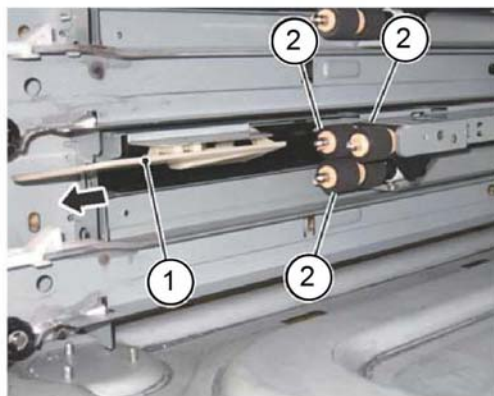

Figure 1 Roll removal
4. Remove the tray 2 feed, retard and nudger rolls (1TM), Figure 1:
- a. Slide the chute (1) forwards.
- b. Release the clip, then remove the tray 2 feed, retard and nudger rolls (2).